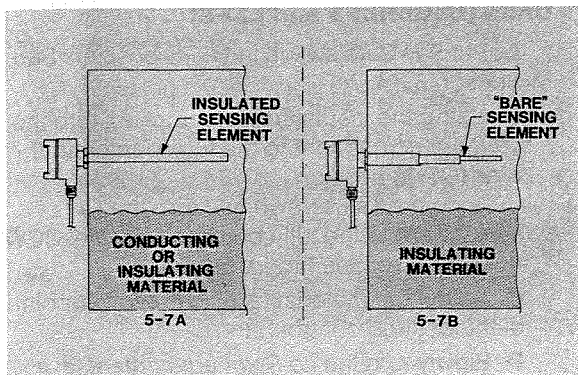

FIGURE 5-7
- A.** Be sure that the level is well below the end of the sensing element. See Figure 5-7.